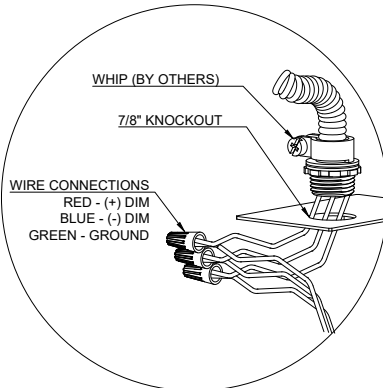

Fig. 3 Wiring details.
4. Open KO and install whip (Fig. 3). Splice LED feed and ground wires. Make sure to follow color codes (Fig. 3).